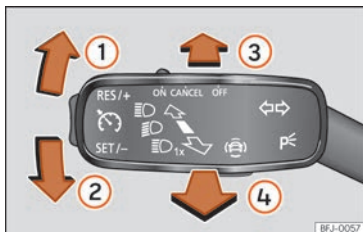

Fig. 91 Turn signal and main beam lever.
- » **Fig. 91 ③** When the lamp  is displayed on the instrument panel display, the main beam assist is switched on.
- **OR:** while the main beam is on, pull the turn signal light and main beam headlights lever forwards »» **Fig. 91 ④**.